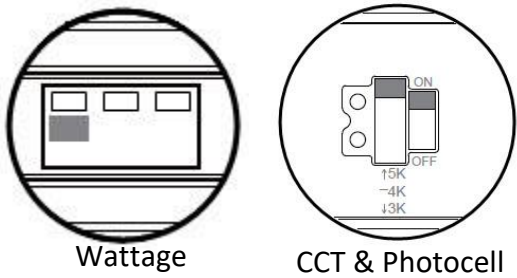

Figure 1
- 3:** Remove both (2) clear knockouts from sides of fixture to gain access to dip switches. Dip switches are used to change wattage, color temperature and enable/disable photocell.
- 4:** Adjust dip switches position for desired settings. (Figure 1)